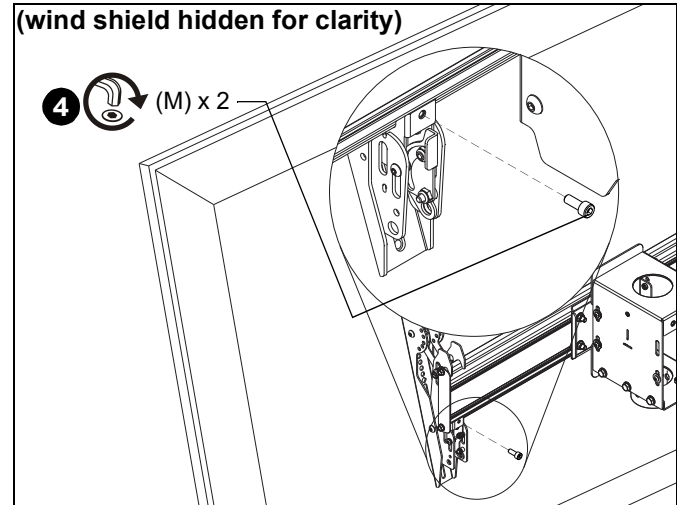

Figure 18
4. Fasten brackets against ceiling mount extrusion using two #10-24 x 1/2" socket head cap screws (M). (See Figure 18)